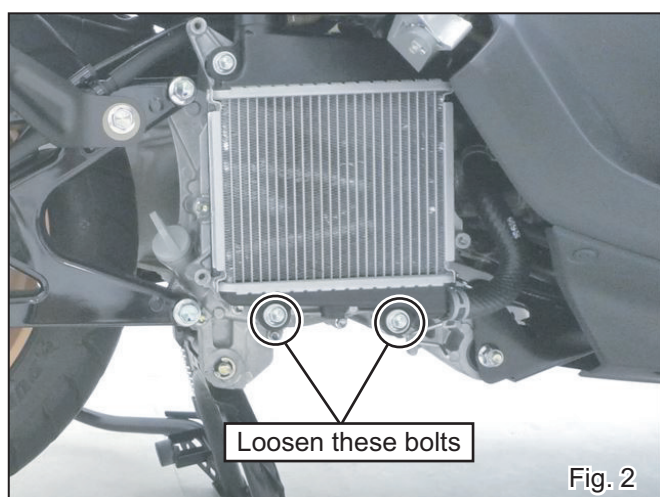

Fig. 2
- 4) Loosen 2 of stock bolt which are mounting radiator and fasten them in the same position with Exhaust Pipe Bracket. (See Fig. 2 & 3) Tighten and torque bolts.